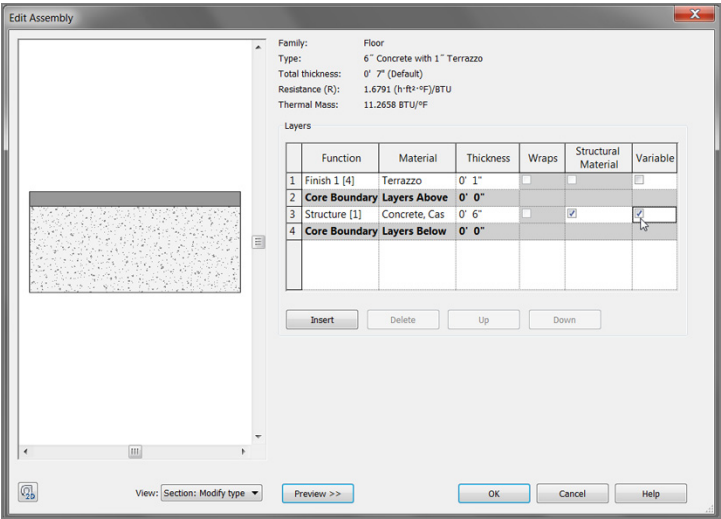

FIGURE 6.25: You can see a preview of the floor section as it's being built.
11. At far right in the rows in the Layers field are Variable check boxes. Select Variable for the Structure row, as shown in Figure 6.25. This will enable you to slope the top of the slab if need be. Only the layer that is set to be variable will actually slope. Any layer that is on top of this variable layer will be pitched.
12. At the bottom of the Edit Assembly dialog box, click the Preview button. A graphic preview of your floor appears in a sectional view (see Figure 6.25).